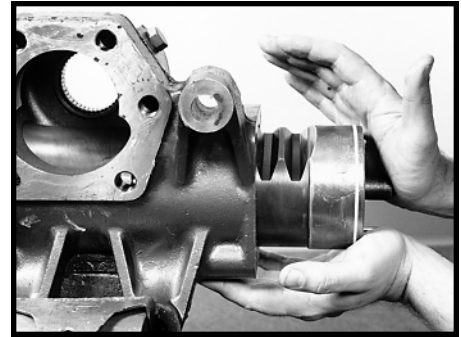

Figure 111
10. Position the housing (20) securely in a vise as it was for the disassembly procedures. SEE FIGURE 38 page 20. Apply a generous amount of clean grease to the Teflon rack piston seal ring (29) and to the housing cylinder bore. Install the rack piston (31) and worm shaft/input shaft (17) as an assembly into the long end of the gear housing (20), if the housing rack piston bore is open on both ends, so that the Teflon rack piston seal ring goes in last. SEE FIGURE 111.